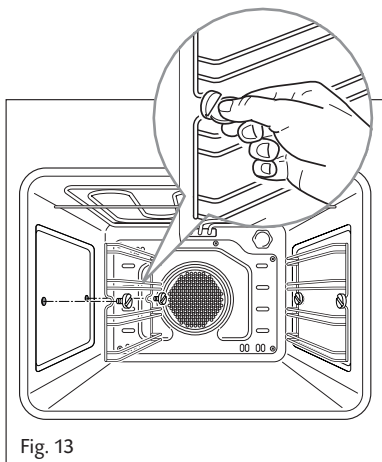

Fig. 13
- Assemble the wire racks to the oven walls using the 2 screws (Fig. 13).